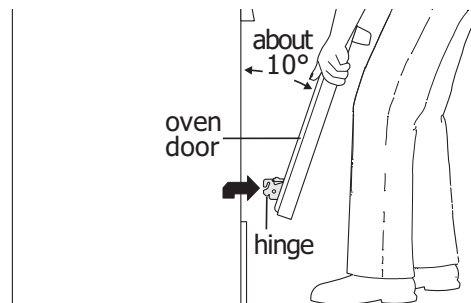
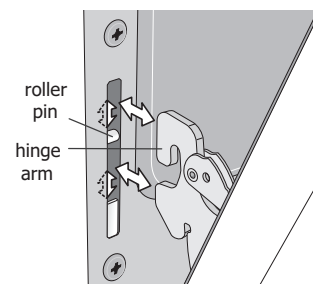

Figure 20: Holding door for removal
Figure 21: Replacement and location of hinge arm and roller pin
3. Firmly grasp both sides of oven door along the door sides. Do not use the oven door handle (See Figure 20).
4. Close the door to approximately 10 degrees from the door frame (See Figure 20).
5. Lift the oven door hinge arms over the roller pins located on each side of the oven frame (See Figure 21).
1. Firmly grasp both sides of oven door along the door sides. Do not use the oven door handle (See Figure 20).
2. Holding the oven door at the same angle as the removal position, seat the hook of the hinge arm over the roller pins located on each side of the oven door frame (See Figure 20 and Figure 21). The hook of the hinge arms must be fully seated onto the roller pins.